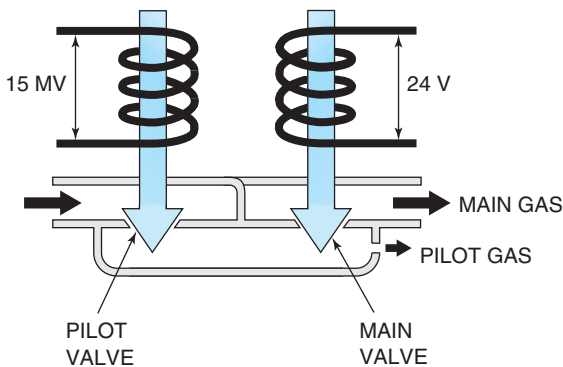
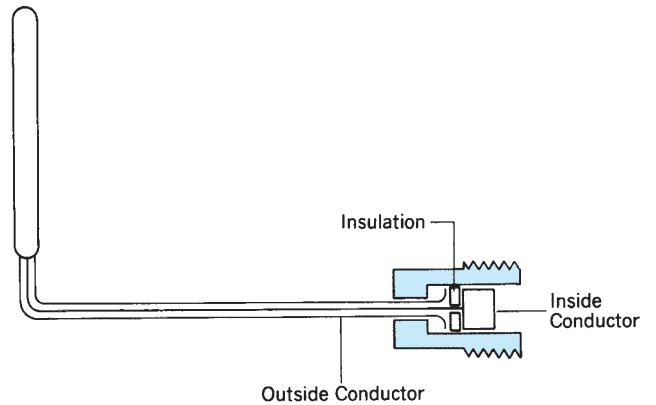

FIGURE 21-4 Cutaway-combination gas valve.
FIGURE 21-5 Thermocouple.
The combination gas valve actually consists of two valves in series (Figure 21-4). It uses a **thermocouple** (Figure 21-5) to sense heat from the pilot flame. The thermocouple converts this high temperature into a small electrical voltage (12–18 millivolts, where 1000 millivolts = 1 volts). The thermocouple output is used to energize a small coil that holds the
1. Referring to Figure 21-4, which coil of the gas valve is energized first, the pilot or main valve?